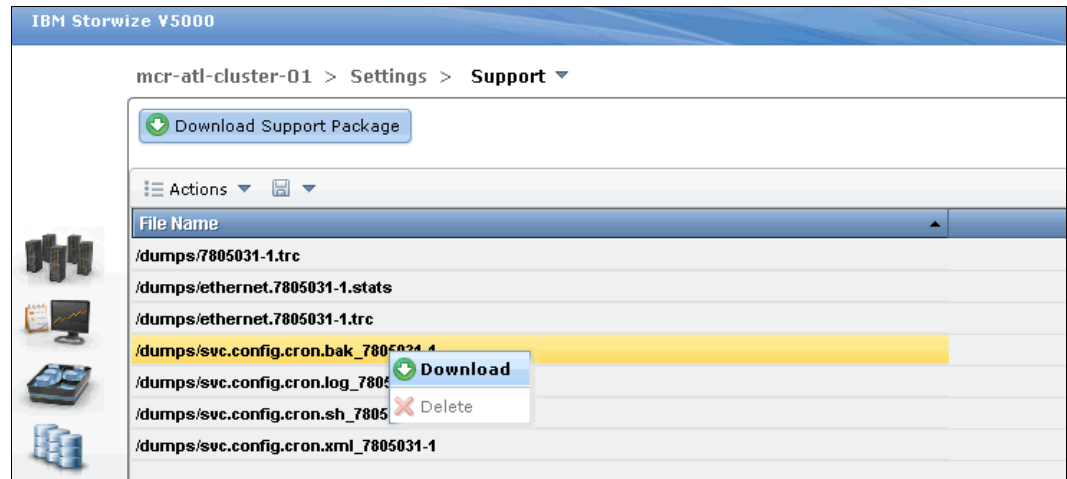

Figure 12-22 Configuration backup start download
4. Search for a file named `/dumps/svc.config.backup.xml_*`, as shown in Figure 12-22. Select the file, right-click it, and then select **Download**.